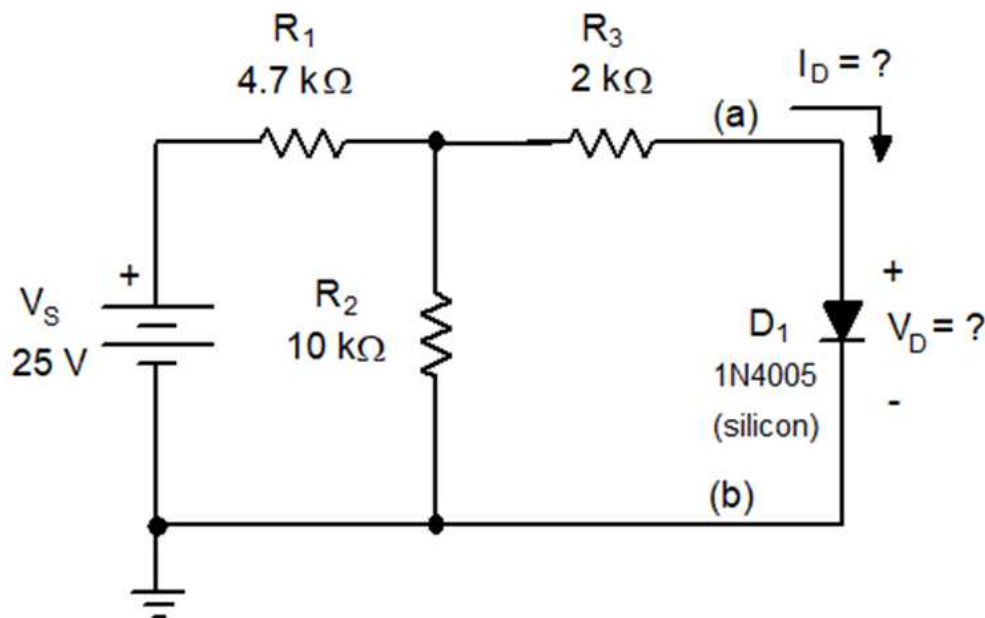

Figure 2-49.
- 2-47. A 1N4005 rectifier diode is used in the circuit given in Fig. 2-49. Find I_D and V_D . (Hint: Use Thevenin's theorem and the diode's knee-voltage model.)
- 2-48. Find I_D and V_D for the diode given in Fig. 2-49. Assume that resistor R_2 is changed to 100 Ω . All other component values are unchanged. (Hint: Use Thevenin's theorem and the diode's knee-voltage model.)
- 2-54. Use Multisim to analyze the circuit shown in Fig. 2-49. Use a 1N4005G. Obtain the solution for Prob. 2-47. Specifically, find I_D and V_D . This means a DMM adjusted to measure current should be in series with the diode and a DMM adjusted to measure voltage should be across the diode.